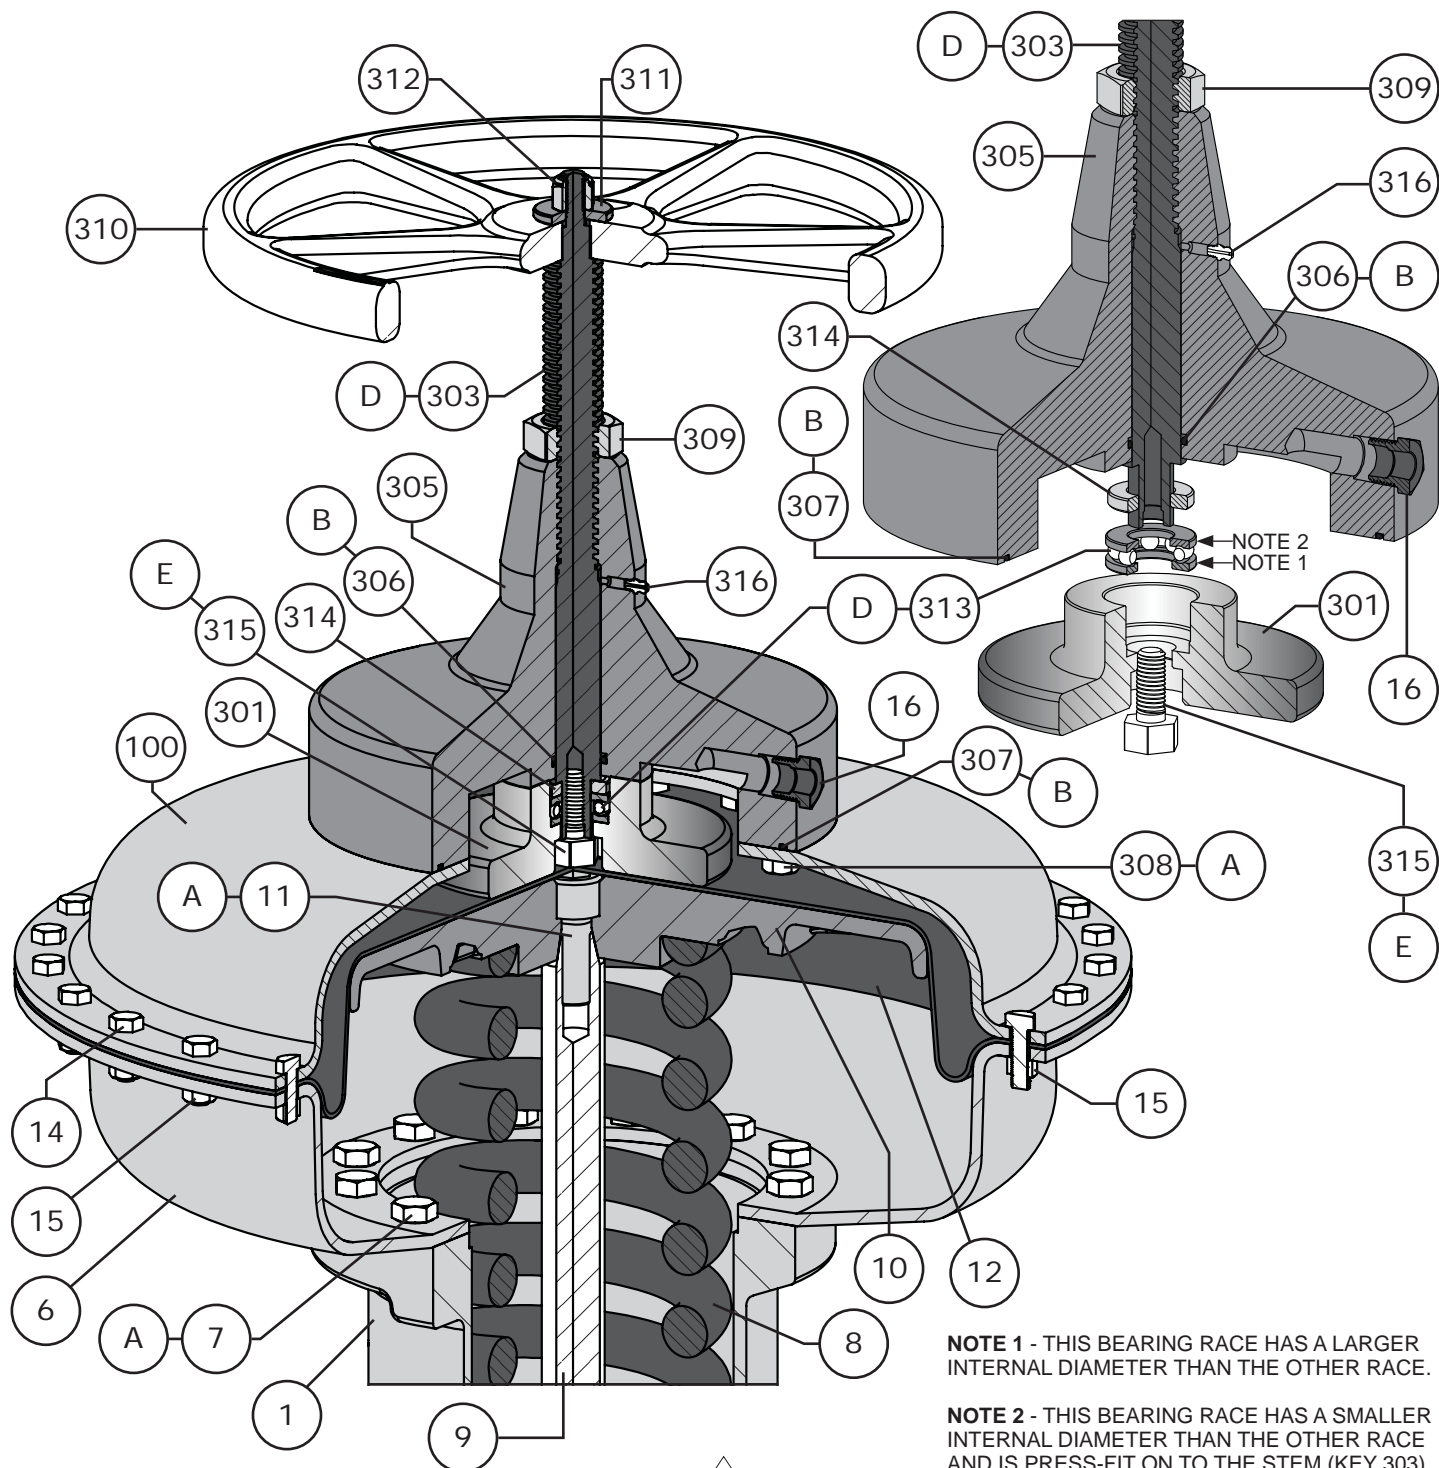

Figure 24 Top-Mounted Handwheel Cross Section (Size 220 Actuators)
NOTE - THE THRUST BEARING (KEY 313) IS PRESS-FIT ONTO THE STEM (KEY 101). ONE RACE OF THE THRUST BEARING HAS A SMALLER INTERNAL DIAMETER THAN THE OTHER, REFER TO FIGURE 24 FOR DETAILS.
- 5 Separate the handwheel assembly from the upper diaphragm casing (Key 100) by remove the cap screws (Key 308). Refer to Figure 24.